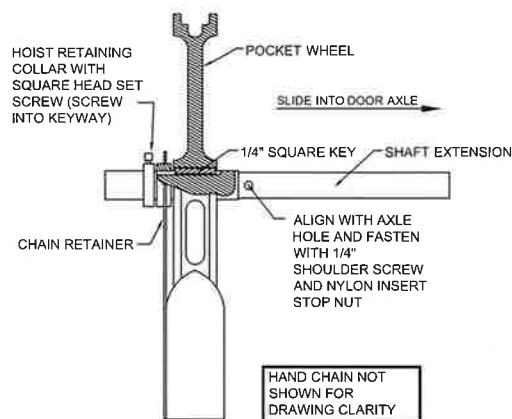

Figure 14
15.1 Direct-drive operator -- Direct drive chain hoists can be installed on either side of the door, prior to or after the door is hung (although there may be clearance limitations). Please reference Figure 14 for specifics.